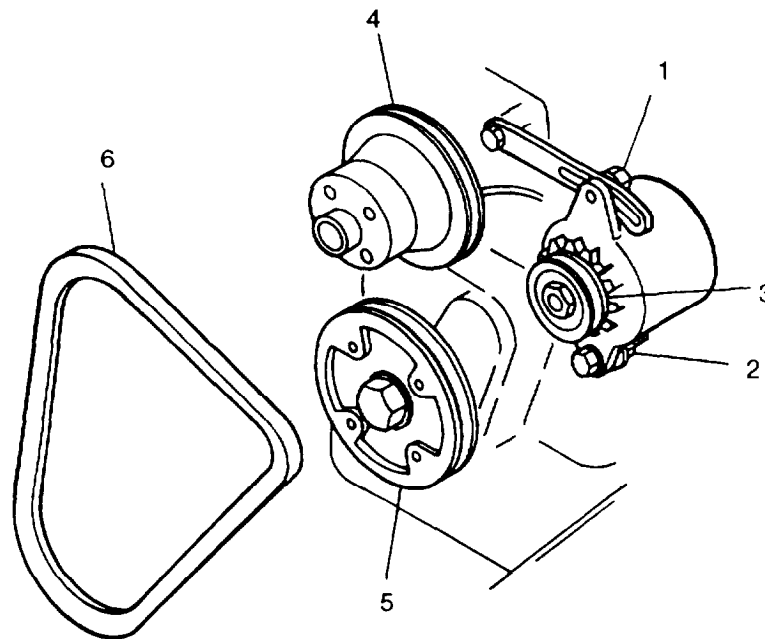

FIGURE 2-25. Fan Belt
- e. Inspect fan belt (6, FIGURE 2-25) for frays, cracks, oil soaking, and other damage
- g. Tighten alternator mounting bolt (1) and nut (2).
- e. Loosen alternator mounting bolt (1, FIGURE 2-25) and nut (2).
- f. Pivot alternator to relieve tension on fan belt (6). and remove belt (6) from alternator pulley (3), fan pulley (4), and crankshaft pulley (5).
- a. Slip fan belt (6, FIGURE 2-25) over fan (36, FIGURE 2-23).
- b. Install belt (6, FIGURE 2-25) onto alternator pulley (3), fan pulley (4), and crankshaft pulley (5)
- c Adjust tension on fan belt (6). paragraph 2.83.2.